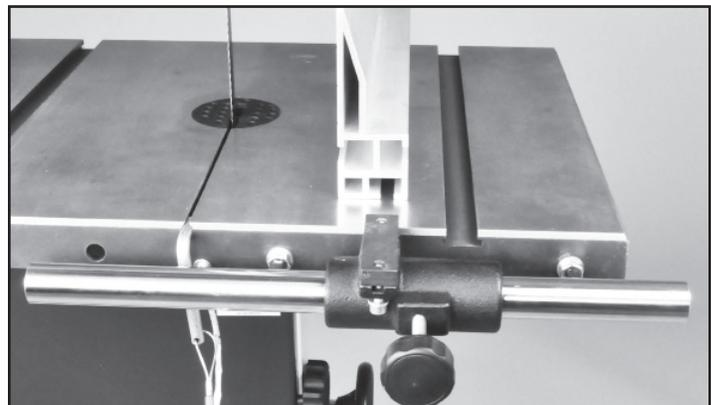

FIGURE 37
2. Unscrew and remove the front fence Guide Rail (#11F) from the front lip of the table. Flip the rail over 180° end-to-end and re-attach it to the right side of the table front edge, through the two pre-bored holes to the right of the blade slot in the table. Fig. 37. Mount the fence guide rail with the two fence bar Nuts and Washers (#15F, 16F). Position the bar so that it is parallel with the table surface, and equal distance out from the front edge of the table when measured at both left and right front edges of the table.
5. Turn the fence around 180° end-to-end and slide it back onto the sliding block. Fig. 37. Once in place, retighten the two hex screws to secure the fence in position on the carrier. Fig. 38.